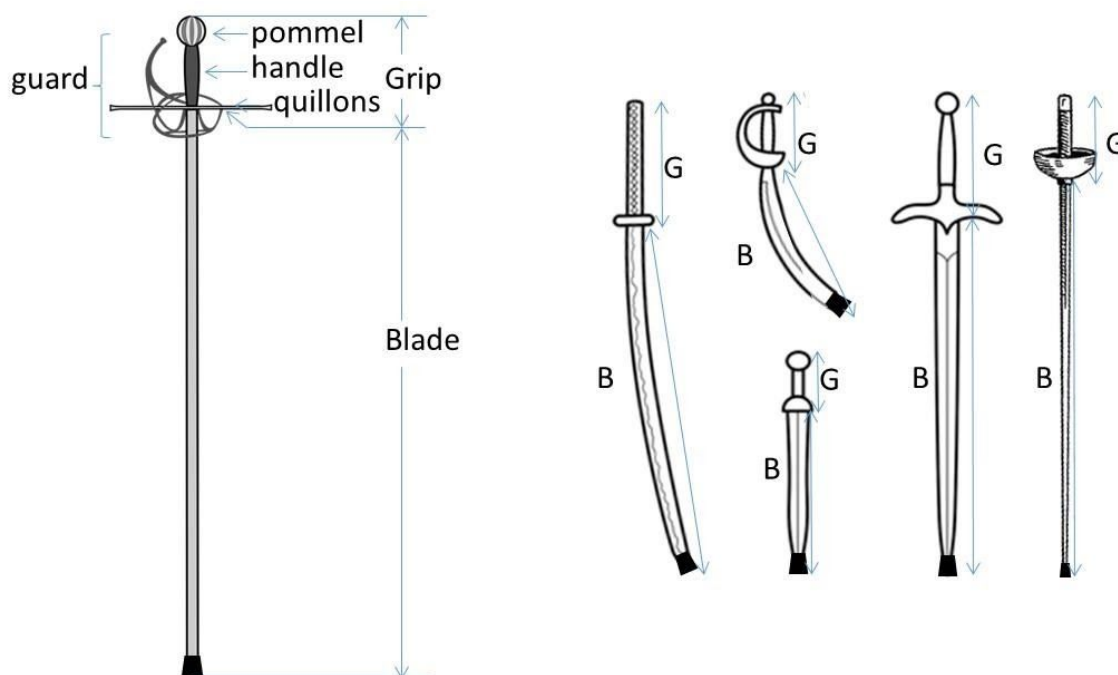

Figure 2. Parts of a weapon, and measurement of the blade and grip.
- 6.2.17. No weapon shall be longer than the total weapon length specified below in Table 2 and in reference to Figure 2.